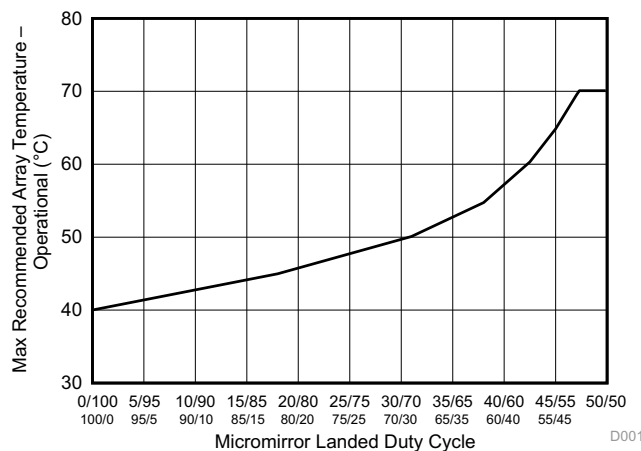

Figure 1. Max Recommended Array Temperature – Derating Curve
- (13) Per Figure 1, the maximum operational array temperature should be derated based on the micromirror landed duty cycle that the DMD experiences in the end application. Refer to Micromirror Landed-On/Landed-Off Duty Cycle for a definition of micromirror landed duty cycle.
- (14) Long-term is defined as the usable life of the device.
- (15) Array temperatures beyond those specified as long-term are recommended for short-term conditions only (power-up). Short-term is defined as cumulative time over the usable life of the device and is less than 500 hours for temperatures between the long-term maximum and 75°C, less than 500 hours for temperatures between 0°C and –10°C, and less than 25 hours for temperatures between –10°C and –20°C.